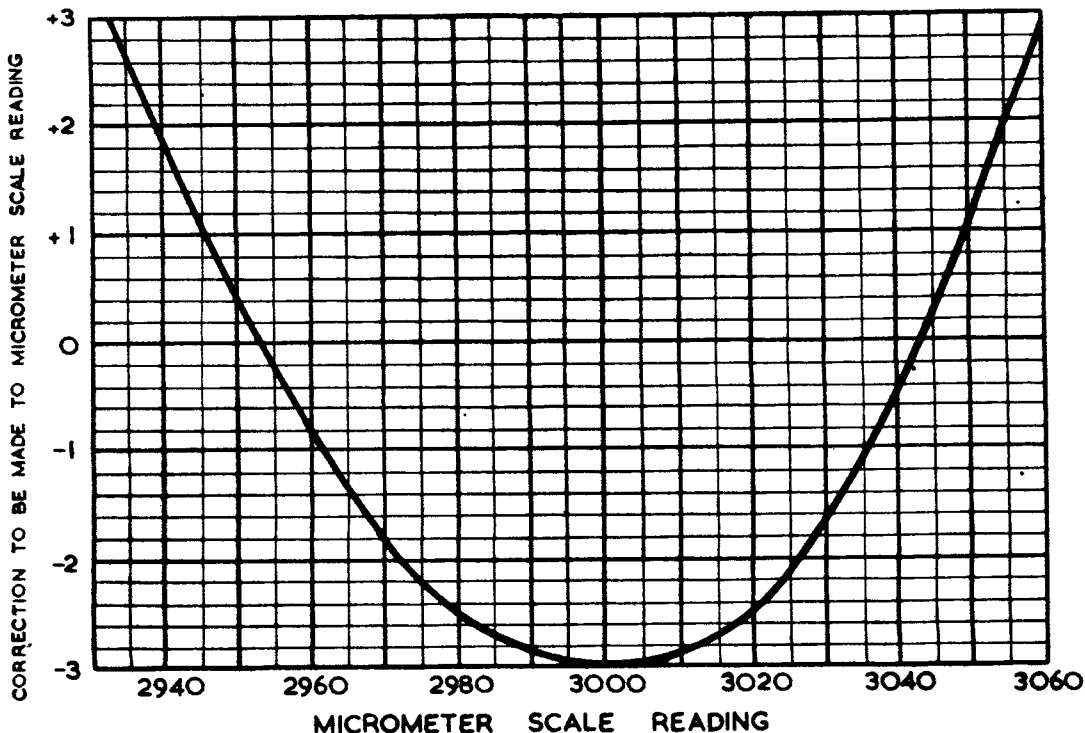

Fig. 2. Test set Type 288 : frequency correction curve
6. Test set Type 288 is a cavity resonator wavemeter in the frequency range 2,940 to 3,060 Mc/s. It has a high "Q" factor of 30,000 to 40,000 and a frequency accuracy of 0.1 per cent. When the calibration curve correction is applied, readings with 0.01 per cent. accuracy are obtained, corresponding to  $\pm 0.3$  Mc/s in 3,000. A frequency correction curve, which is shown in fig. 2, is supplied with each instrument.